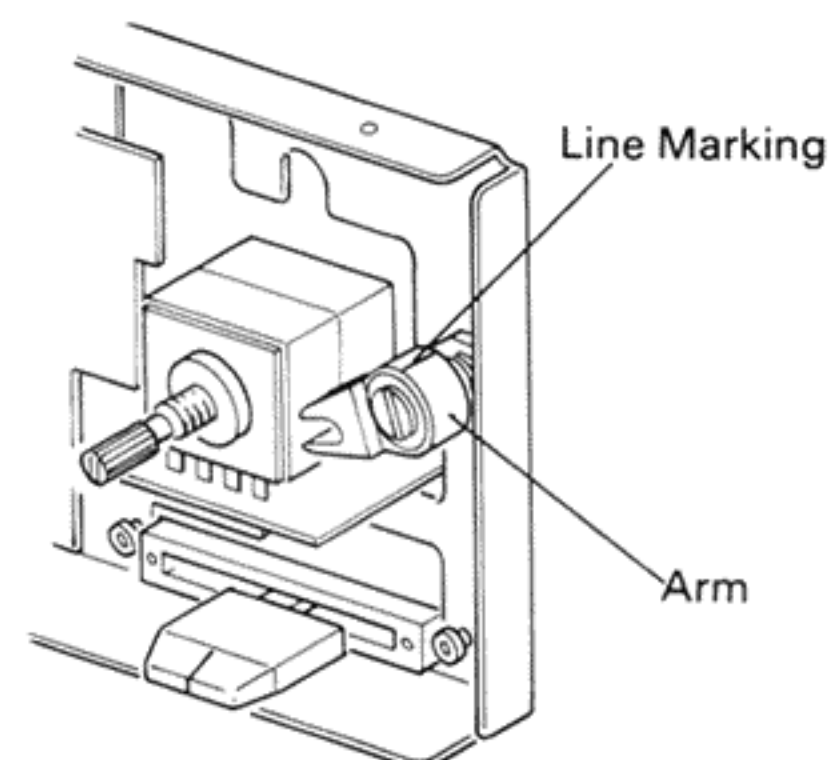

Fig. 1
(7) Removing the LCD Bracket
- Step 4: Removing the Switch P.C. Board (see above item (6)).
(8) Precautions When Installing the Front Panel
(9) Precautions When Installing the Arm (Fig. 1)